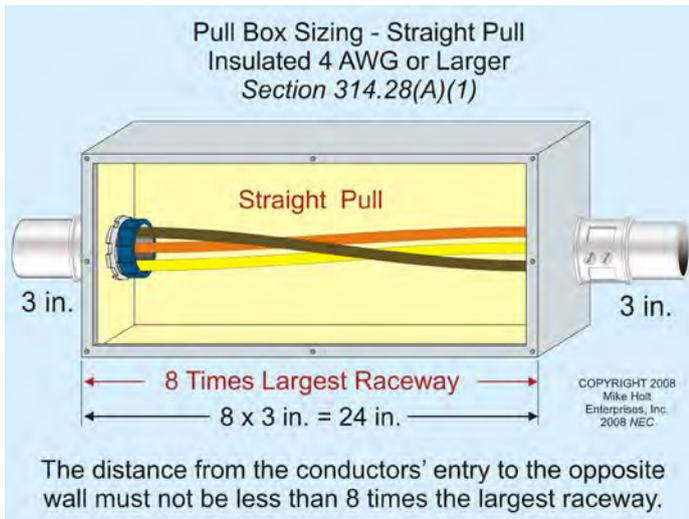

Figure 314-20
(1) Straight Pulls. The minimum distance from where the conductors enter to the opposite wall must not be less than eight times the trade size of the largest raceway. **Figure 314-20**